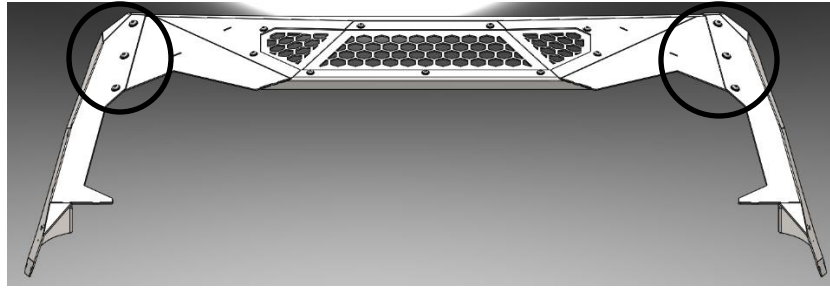

Figure 15
4. Loosely install both ViCowl arms to the visor using the six (6) 3/8"-16 bolts and rubber bonded washers provided in the hardware kit. (Figure 15)